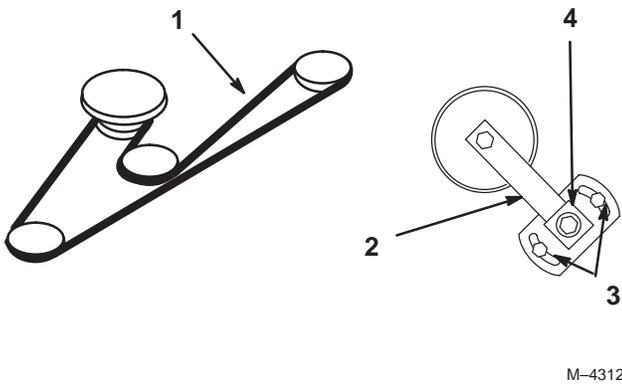

Figure 53
3. Loosen two nuts securing idler plate and move the idler arm to relieve belt tension on the idler pulley, then remove the worn deck belt (Fig. 53).
4. Install the new deck belt around the spindle pulleys, belt guide, the idler pulley, and in the lower groove of the center spindle pulley (Fig. 53).